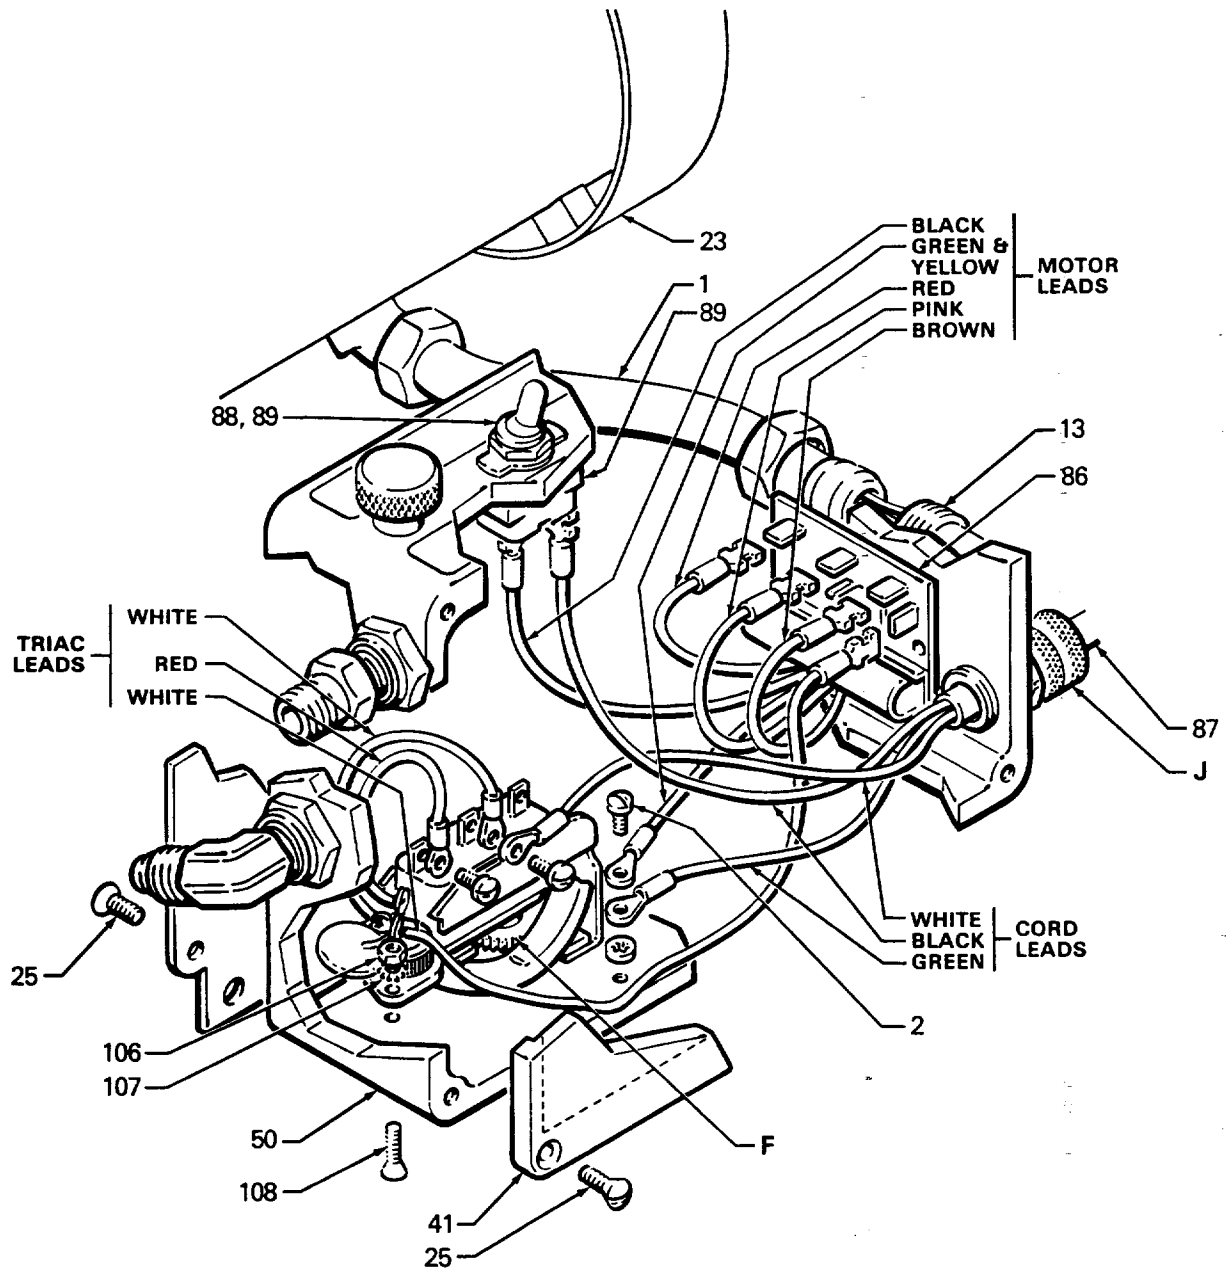

Fig 11
Do not alter the factory adjusted pressure switch (F). See Fig 11. Changing the setting may cause unsafe high pressure or poor performance.
Remove screws (25) and cover (41) from pressure control (50). See Fig 11.
Disconnect red, pink and brown motor leads from circuit board (86). Disconnect green and yellow motor lead from grounding screw (2), and black motor lead from toggle switch (89). See Fig 11.
Unscrew nut on end of conduit (1) from connector (13). See Fig 11. Pull pressure control (50) away from conduit while carefully guiding wires through connector (13).
Loosen knurled part of power cord strain relief (J), and unscrew it from pressure control. Slide strain relief up on power cord to provide clearance, and unscrew conduit connector (13). See Fig 11.